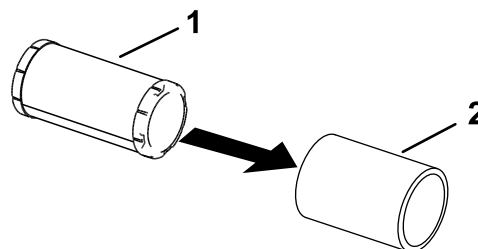

Figure 36
5. Separate the foam and paper elements (Figure 36).